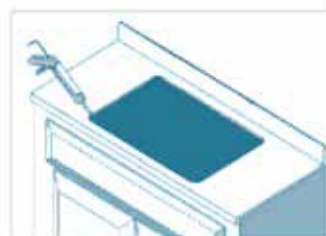

Figure 3 . Apply silicone caulk around the opening.
7. Apply a bead of silicone around the countertop cutout. See Figure 3. Gently lower the sink into the countertop, and wipe away any excess silicone. Connect the drain fittings to the waste trap. Connect the water supply to the faucet. Allow the silicone to cure according to the manufacturer's instructions. **CAUTION! DO NOT OVERTIGHTEN!** Over tightening of fittings may cause damage to solid surface products. Hand tighten first until all fittings are sealed, then turn additional 1/2 to 3/4 turn.